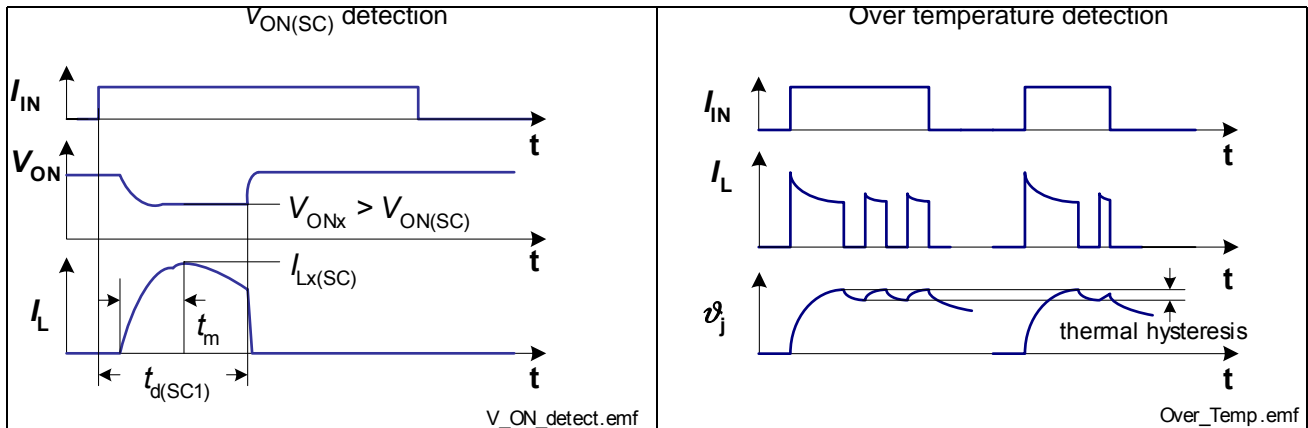

Figure 12 Overload Behavior
In the event that either the short circuit detection via  $V_{ON(SC)}$  is not activated or that the on chip temperature sensor senses over-temperature before the blanking time  $t_{d(SC1)}$  passed by, the device switches off resulting from over-temperature detection. After cooling down with thermal hysteresis, the devices switches on again. Please refer to **Figure 12** for details.
2) Short circuit current limit for max. duration of  $t_{d(SC1)}$ , prior to shutdown, see also Figure 12.